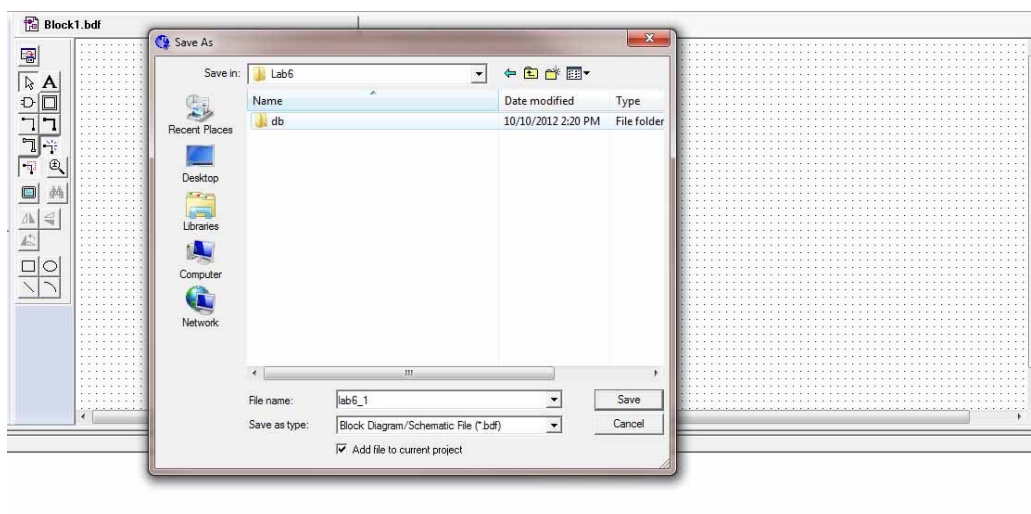

Figure 6-7
11. Before drawing the logic circuit we need to name this *bdf* file and save it as part of our project under your subfolder. Choose **File > Save As** and enter **File name** as **lab6\_1**. Place a *check mark* in the space labeled **Add file to current project** and press **Save** (Figure 6-7).